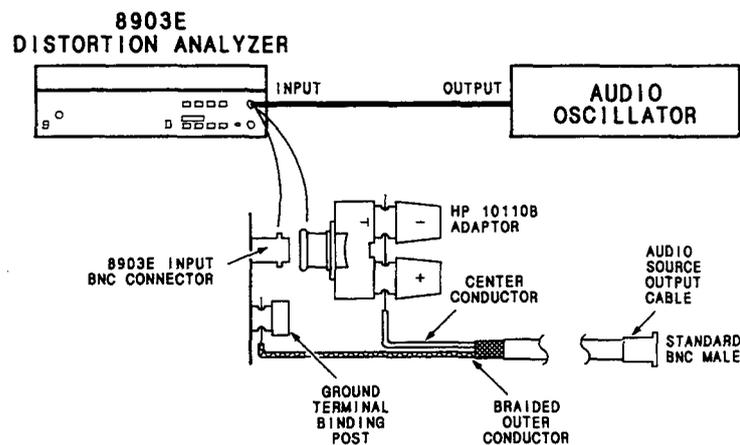

Figure 5-4. Common-Mode Rejection Adjustment Test Setup
3. Connect the equipment as shown in Figure 5-4. Note how the cable center conductor and shield are connected to the Distortion Analyzer INPUT connector and ground terminal.